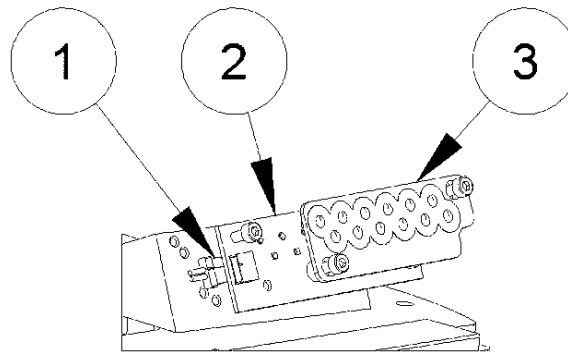

Figure 22 – LED Module Replacement (Threshold Wing Bar)
- disconnect the power supply connector from the LED module (Figure 22– n°1)
- remove the LED module (Figure 22– n°2) and the relevant lens array (Figure 22– n°3) from the mounting plate
- reconnect the power supply connector (Figure 22– n°1) to the LED module